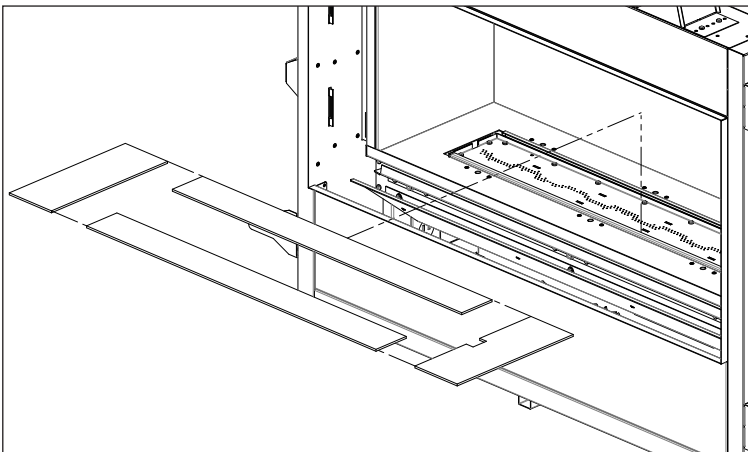

Figure 62: Burner Bezel Placement
2. Place the bezels directly onto the burner platform as shown in Figure 62. No fasteners are required.